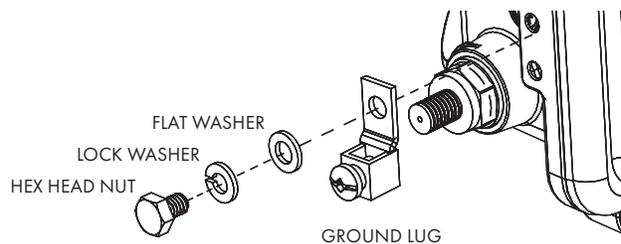

Fig. 4, Ground Lug Installation Reference
1. Locate the ground lug mounting location **[1]** and install the ground lug hardware as shown in Fig. 4. Tighten the hex head nut to 44 in-lbs (5 Nm).